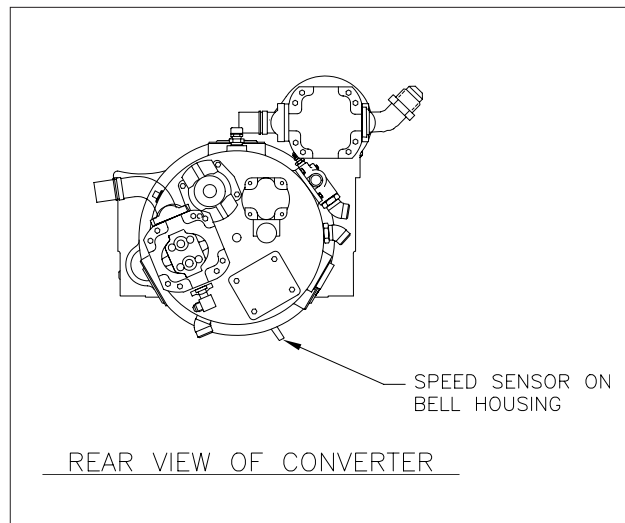

Figure 5 - Speed Sensor Location
- If this light comes on or is intermittent at high engine speeds, check the wiring to the switch assembly. Verify that the speed sensor is adjusted properly (refer to page 8 for procedure), or replace the speed sensor if necessary. For the location of the speed sensor, refer to Figure 5.